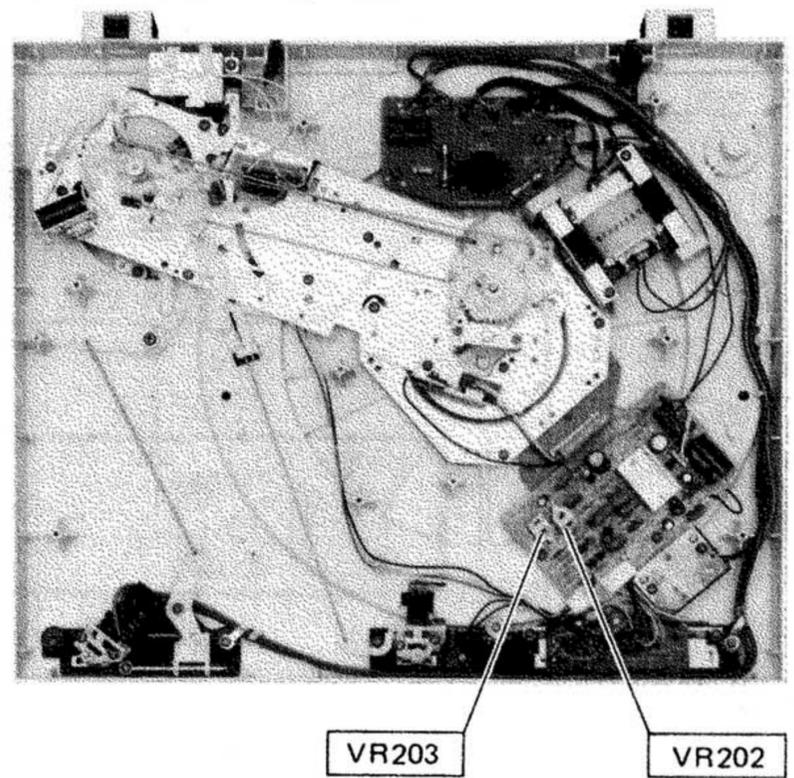

Fig. 16
6. Adjust VR202 by the screwdriver from under the set until the rated speed (45 r.p.m.) is obtained while checking it through the stroboscope. (See Fig. 16)
8. Adjust VR203 by the screwdriver until the rated speed (33-1/3 r.p.m.) is obtained while checking it through the stroboscope. (See Fig. 16)